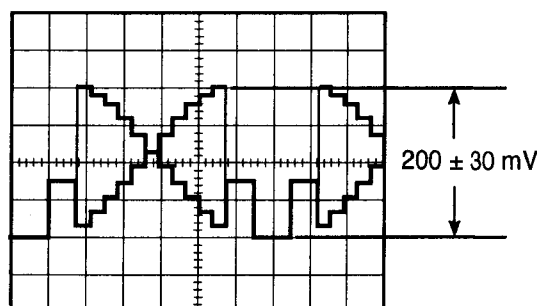

Fig. 5-24
- Adjust data with the **ARROW** keys so that the CDSOUT signal level becomes 200 ± 30 mV as shown in Fig. 5-24.